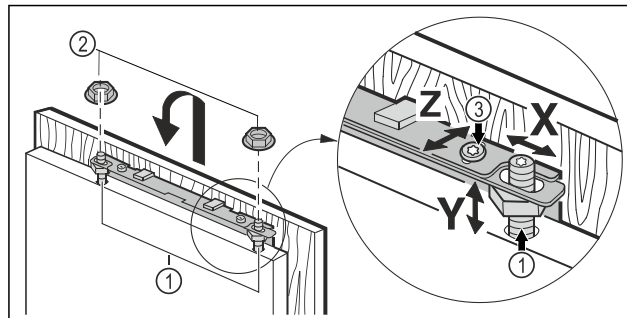

Fig. 20
- Hook the unit door onto the adjustment bolts Fig. 20 (1) and screw the lock nuts Fig. 20 (2) loosely onto the adjustment bolts.
- Align the unit door in height Y and in the lateral inclination: Adjust the adjustment bolt Fig. 20 (1) with a screwdriver.
- Tighten the lock nuts Fig. 20 (3).